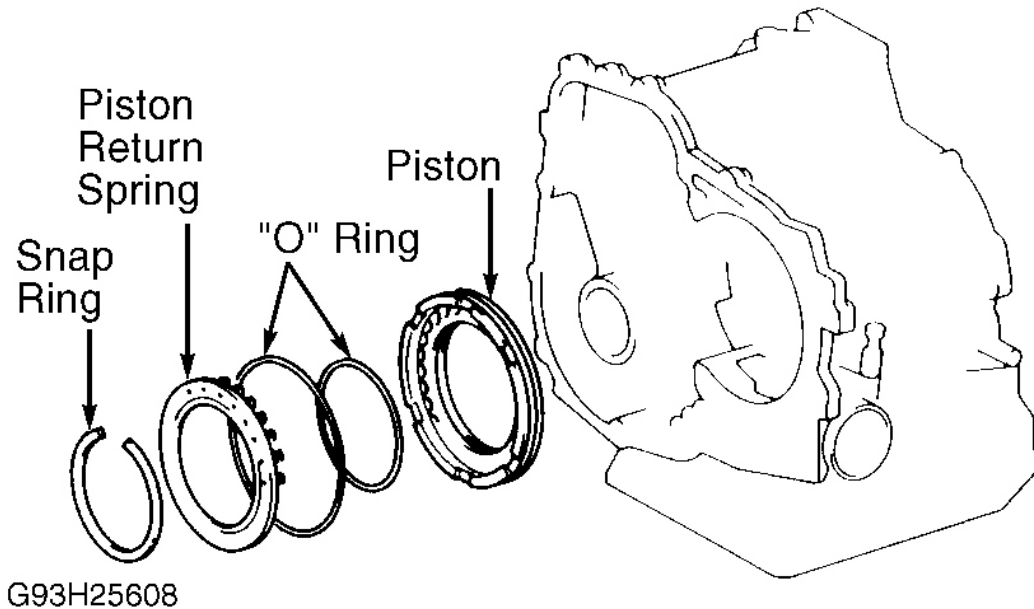

Fig. 32: Exploded View Of 1st & Reverse Brake Piston
1. Install NEW "O" rings on piston and coat with ATF. Install piston in transaxle case with spring seats facing upward. Install piston return spring assembly and snap ring in place. See **Fig. 32**.